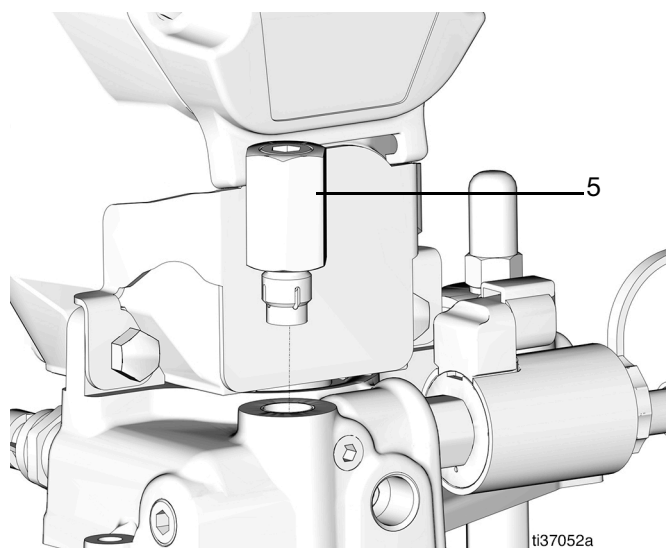

FIG. 31
9. Remove the pressure relief valve cartridge (5) (FIG. 31).